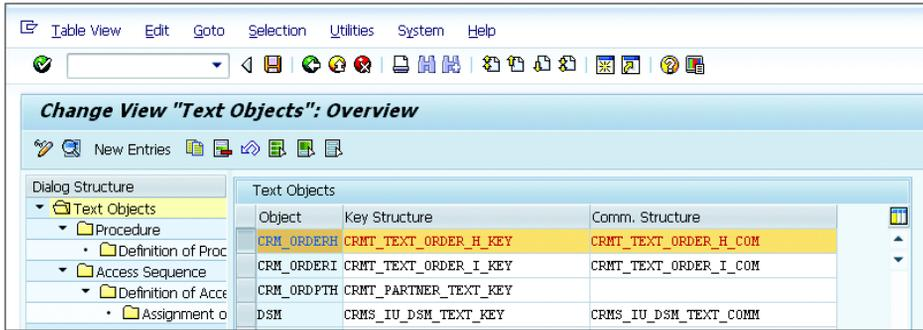

Figure 4.58 Text Object within the Text Determination Procedure
6. Select the text object CRM_ORDERH, as shown in Figure 4.58.